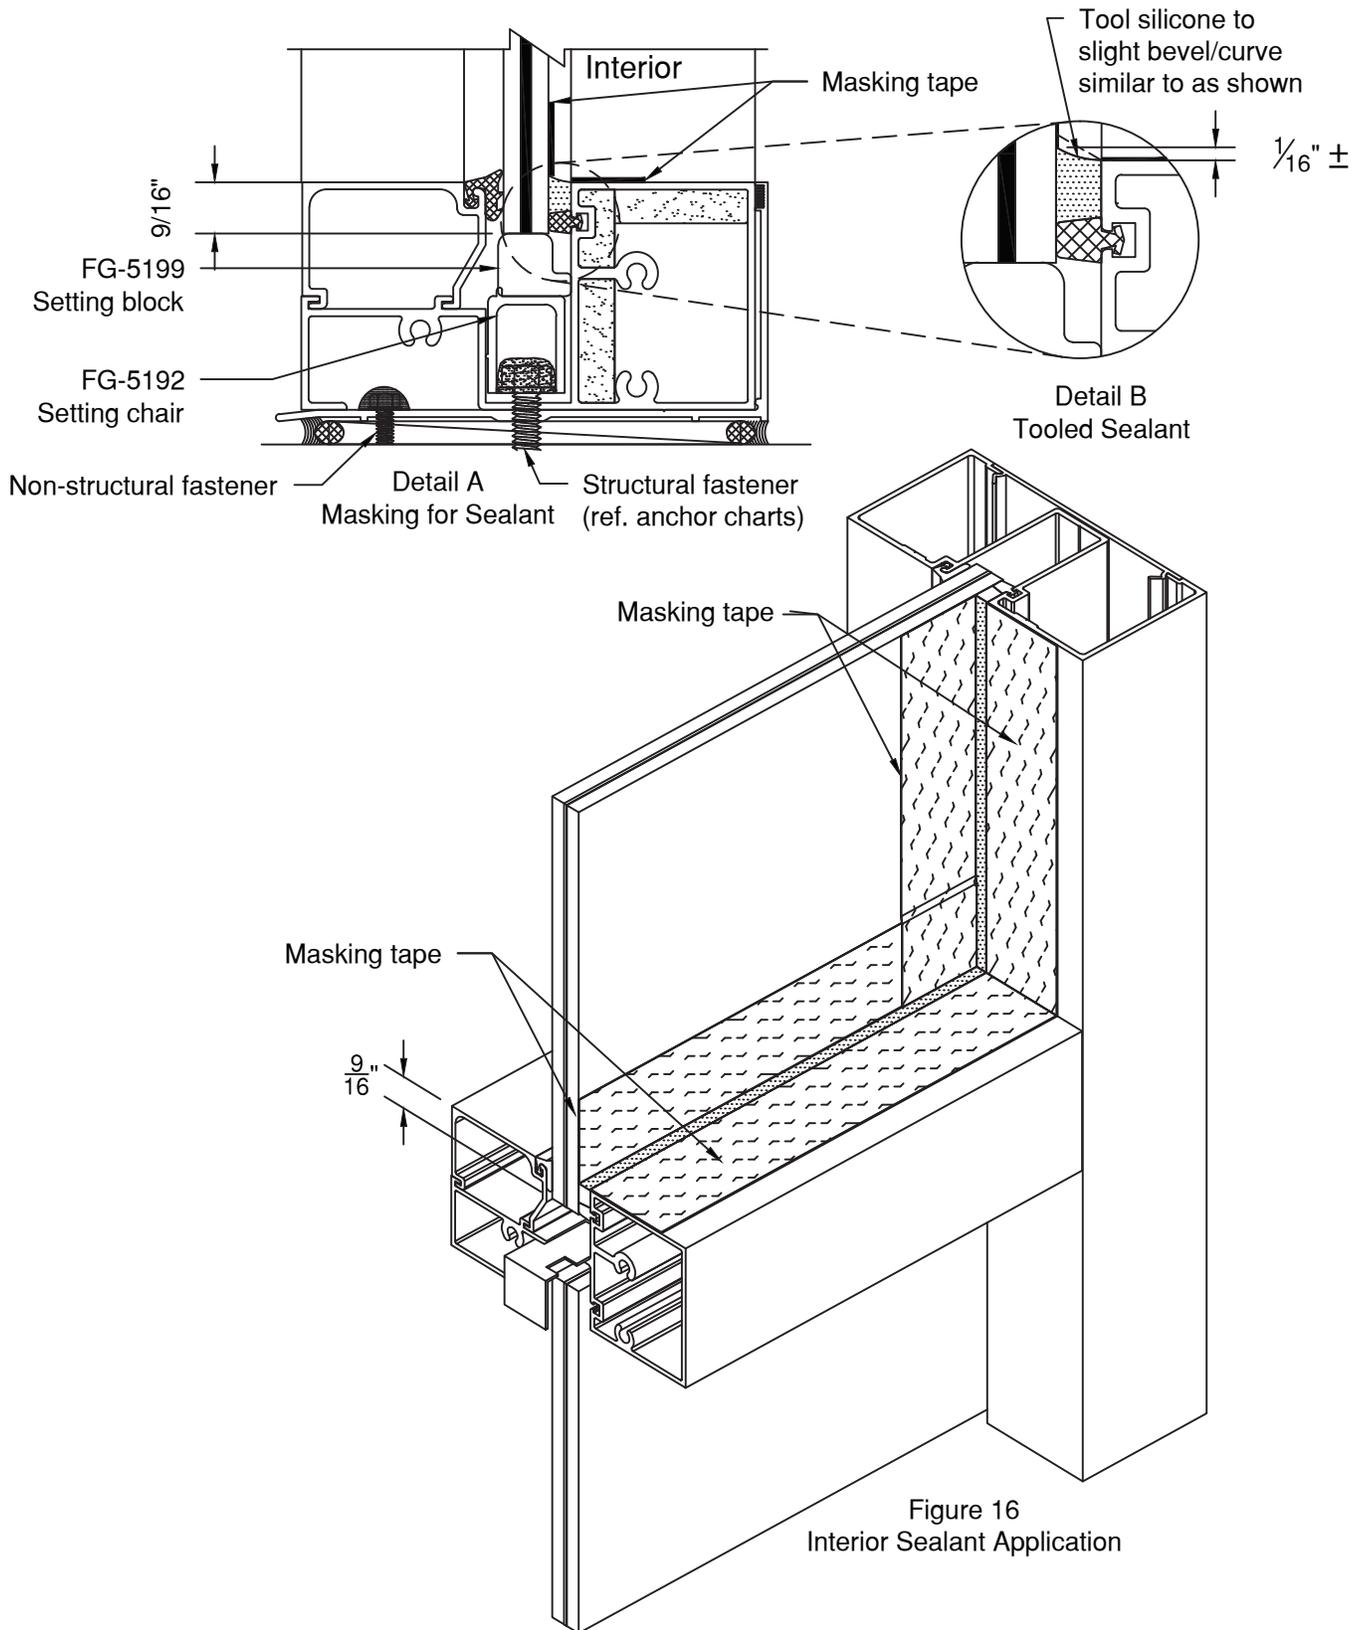

Figure 16
- 4W.2.1 Set glass into opening, push in to deep pocket first, at sill place glass on FG-5192 setting chair, then after centering in DLO, pull glass up and position FG-5199 setting block on setting chair (at 1/4 points) **See Figure 16 on Page 19** At horizontal same procedure is used, except no setting chair is used.
4W.2.6 Mask off glass and aluminum with 1" wide (minimum) low adhesion masking tape. **SEE Figure 16.** Working a single DLO at a time, Fill cavity around full perimeter of DLO with Dow Corning 995 sealant as shown, care should be taken not to leave any voids and eliminate air bubbles in sealant **(See Detail. A)**. Immediately tool, creating a finished joint with a beveled/curved joint surface **See detail B above right.**